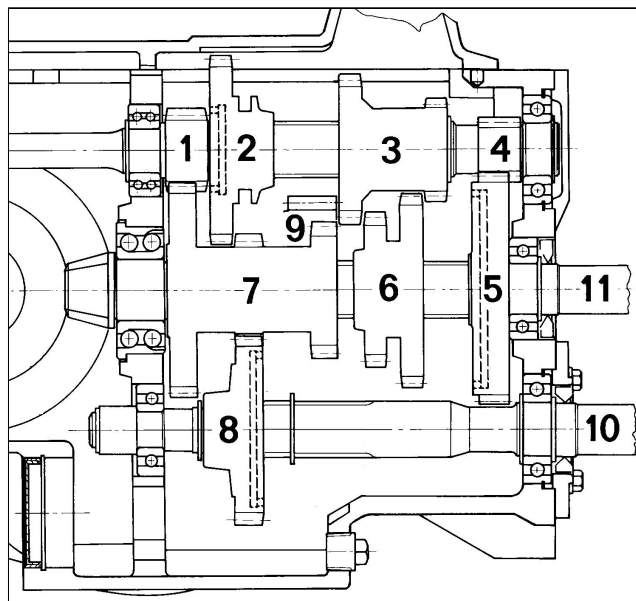

Fig.4
- Tighten or loosen rod **H** in order to exactly align the teeth of gears **2** and **7** of (fig. 4) when one of the 3 speed gears is engaged.